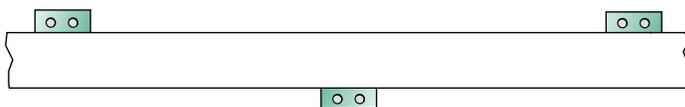

Figure 23
Step 2: For wood frame construction, attach the trim to the building with minimum 2, 6d siding nails fastened through the Hardie™ Trim Flat Tabs (Figure 23). ET&F or equivalent fasteners may be used to attach the Hardie™ Trim Flat Tabs to steel frame construction.